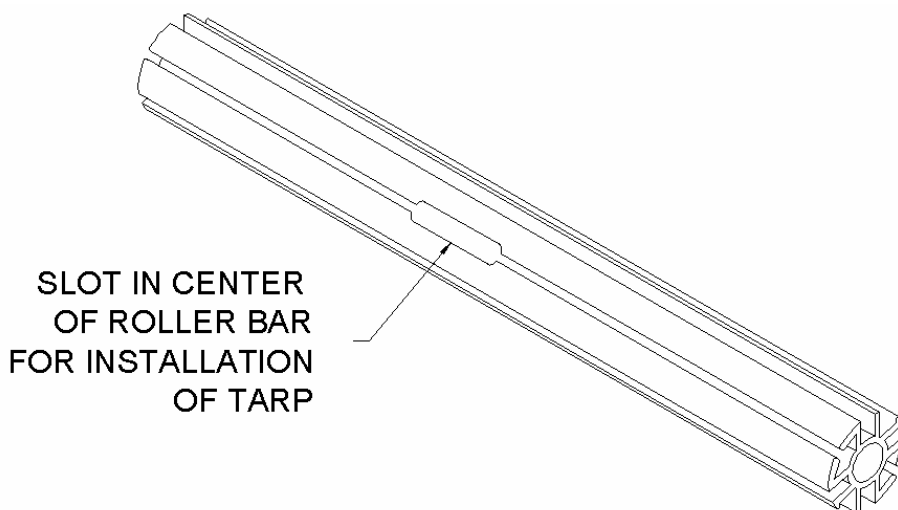

FIG. 15
1. THREAD THE TARP SPLINE INTO THE SLOT IN THE CENTER OF THE ALUMINUM ROLLER BAR . (MAKE SURE TO REMOVE EXCESS SPLINE OR IT MAY HINDER THE SYSTEM'S OPERATION). SEE FIGURE 15.